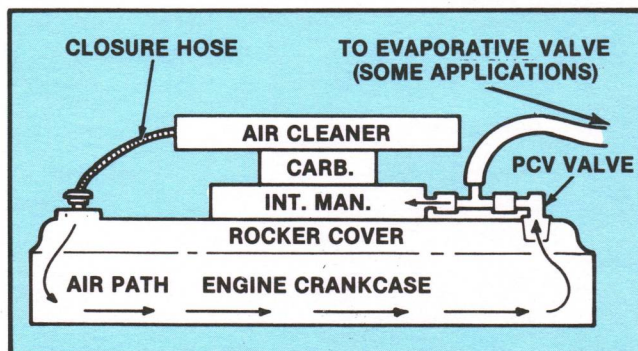

Figure 81. Typical Positive Crankcase Ventilation (PCV) System
To reduce the amounts of hydrocarbon (HC) emissions that emit from the crankcase of the engine, all cars are equipped with a positive crankcase ventilation (PCV) system (Fig. 81).